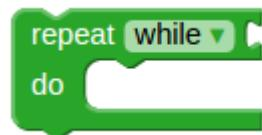

Figure 101: Repeat While Block
*Repeat while []*(Figure 101):